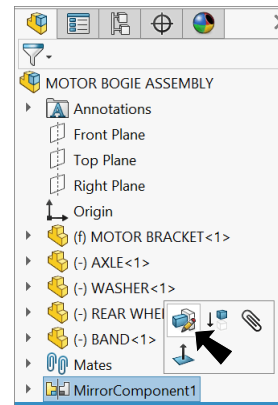

Fig. 15
Step 2. Click **MirrorComponent1**  in the Feature Manager and **Edit Feature**  in the content toolbar, **Fig. 15**.